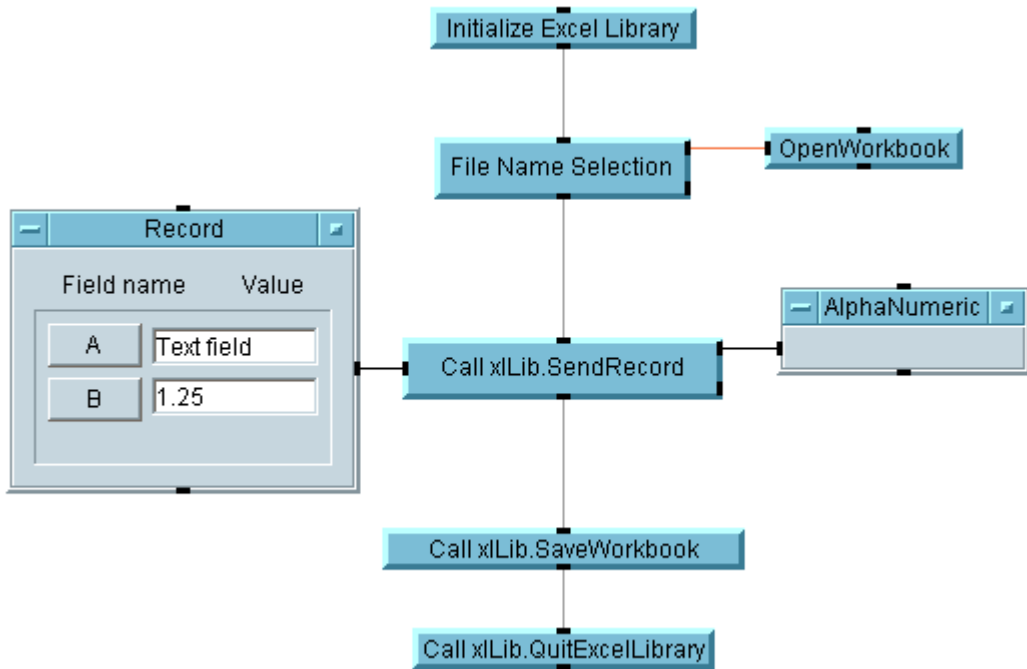

Figure 201 Sending a Record to a Named Range
constant is used in the example in Figure 201 on page 360, you could easily build a custom record and push its data into Excel.
- 1 Using the SendingRecord.vee program shown in Figure 201, remove the record constant, the alphanumeric, and the **CallSendRecord** objects.